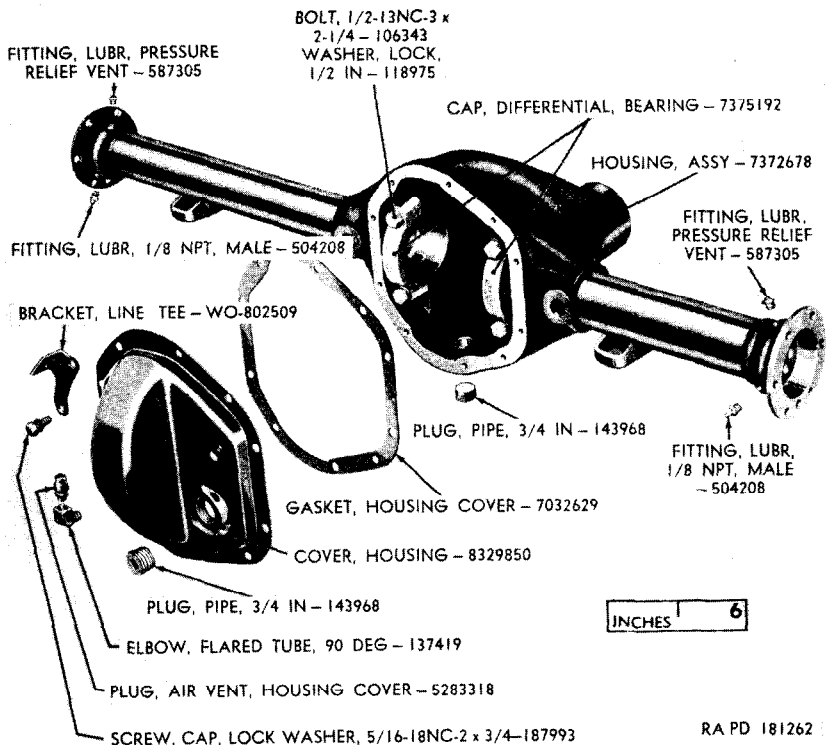

Figure 126. Rear axle housing assembly—disassembled view.
b. Housing. The housing (fig. 126) is of one piece construction. An opening near the center of the housing holds the differential. This opening is set slightly to the right so that the rear propeller shaft has a straight drive from the transfer. Flanges are provided at the outer ends of the housing for attaching the brake assemblies.
a. *Remove Housing Cover.* With the brake lines removed (par. 56d), remove the housing cover (fig. 126) by removing 10 lockwasher cap screws which secure the cover to the housing assembly.
b. Remove Differential Bearing Caps. Remove two bolts and lockwashers securing each differential bearing cap (fig. 126) to housing and remove caps, noting identification marks on housing and caps.